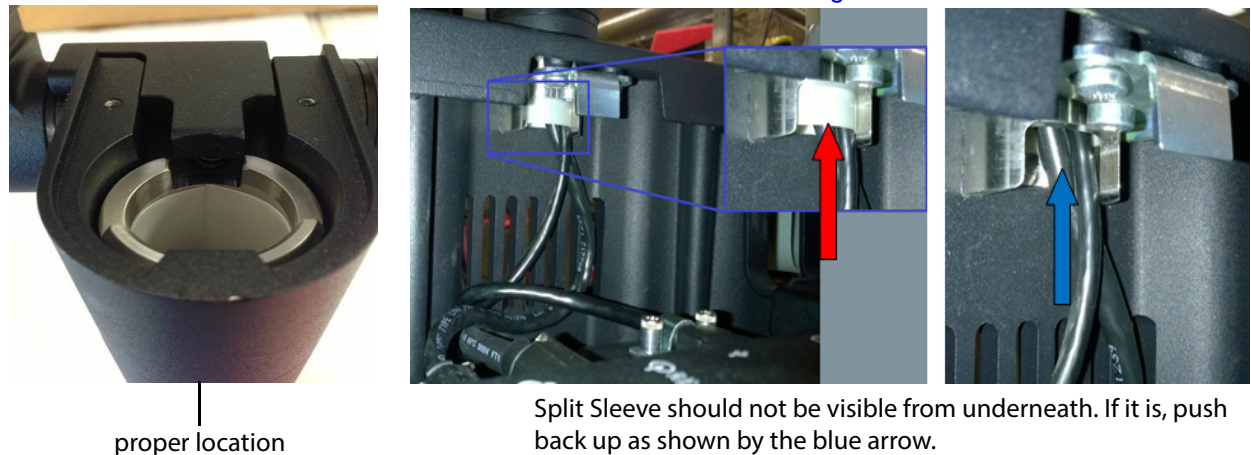

Figure 6.5 Split Sleeve
- 2 Check to make sure the cable split sleeve is in proper position. Failure to do so may result in excessive wear on the HDMI cable. Sleeve should be located as shown in Figure 6.5